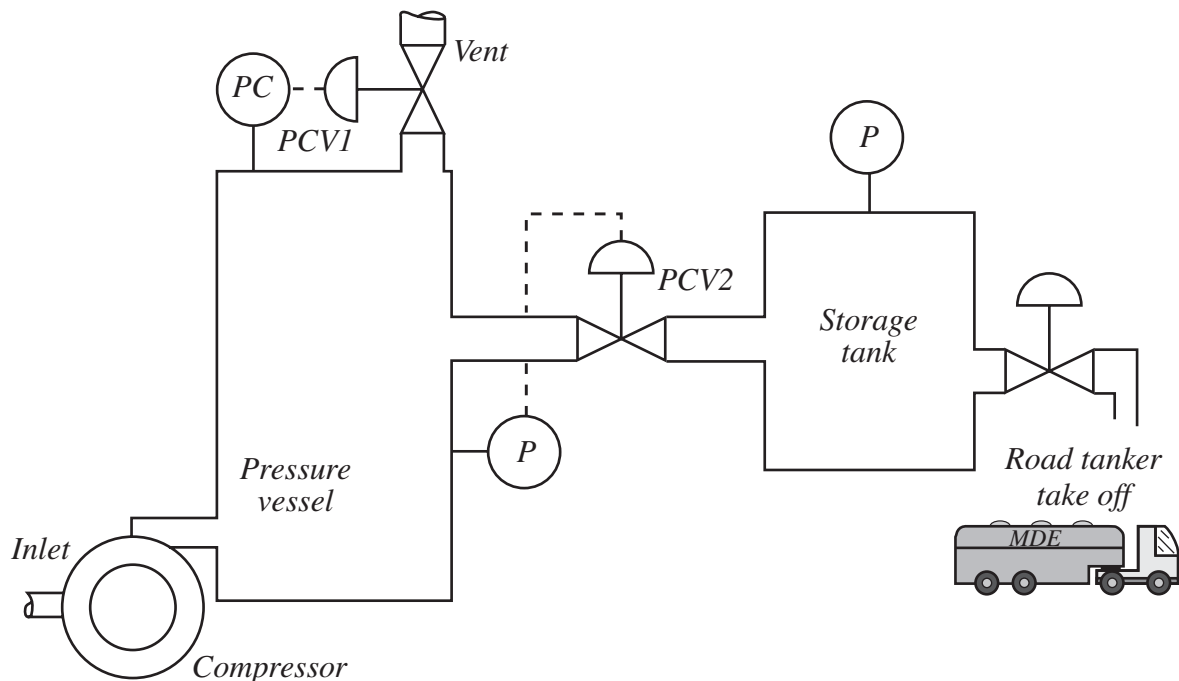

FIG. 14
2. You are working on a modification to a chemical plant which requires the installation of the pressure vessel shown in FIGURE 14. Select a suitable valve plug for each of the two control valves shown, and explain the reasons for your selection.